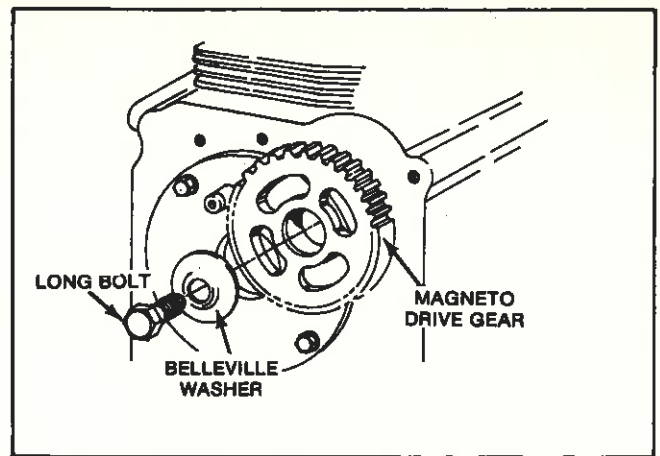
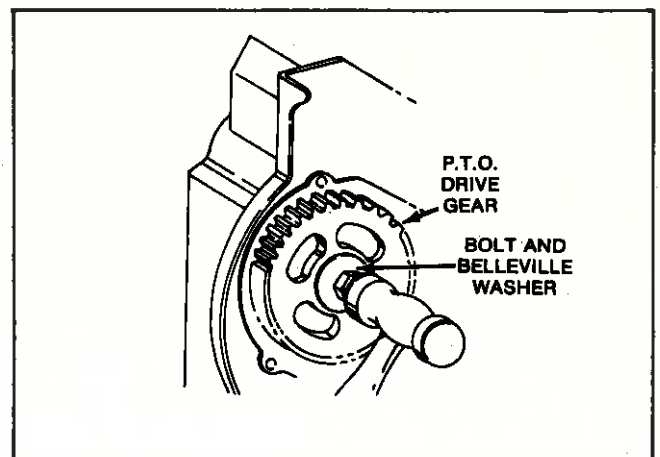
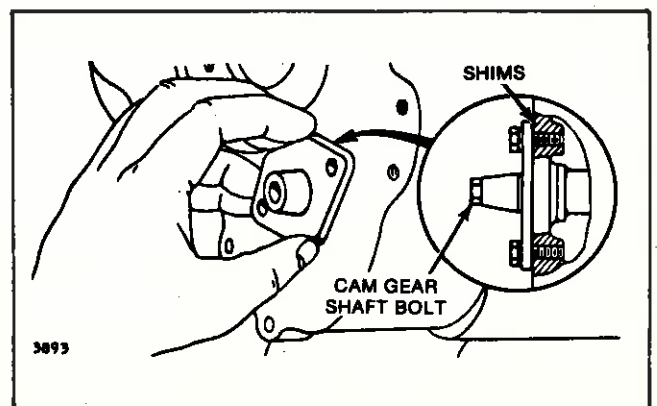

Fig. 5 — Remove Short Bolt
Fig. 6 — Remove Long Bolt
Fig. 7 — Removing Cam Gear Bearing
Remove short bolt and Belleville washer from P.T.O. drive gear, Fig. 5. Loosen long bolt and Belleville washer two (2) turns on magneto side and tap head of bolt with hammer to loosen cam gear shaft. Turn bolt out while pushing out cam gear shaft. Remove bolts from cam gear bearing, Fig. 6. While holding cam gear, remove cam gear bearing and remove cam gear, Fig. 7.
Loosen long bolt two (2) turns. Use hammer to drive out cam gear shaft and cam gear plug. Loosen bolt while pushing out cam gear shaft and plug. Remove bolts and cam gear bearing, Fig. 6. Remove cam gear, Fig. 7.